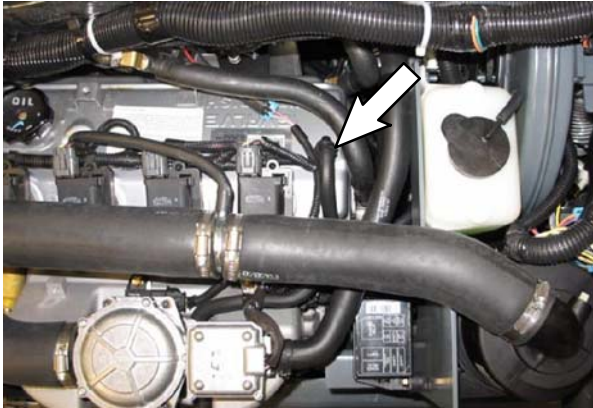

FIG. 1
1. Open all shrouds necessary to access the top of the engine where the PCV valve is located. (Fig. 1)